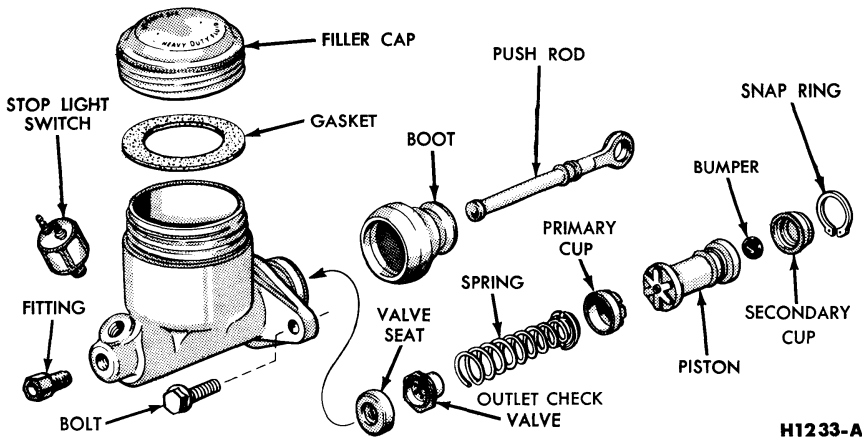

FIG. 18—Master Cylinder with Standard Brake System
forward end of the cylinder (Figs. 18 and 19).
4. When disassembling a master cylinder used with the standard brake system, remove the piston assembly, cup, spring, check valve, and valve seat from the cylinder bore (Fig. 18).
3. A leaf-type valve is riveted to the front end of the piston in a master cylinder used with the standard brake system (Fig. 18). If this valve is loose or has moved so that the piston ports are open, replace the piston.
3. When assembling a master cylinder used with the standard brake system, install the valve seat, check valve, spring, cup, and piston assembly in the cylinder bore (Fig. 18).